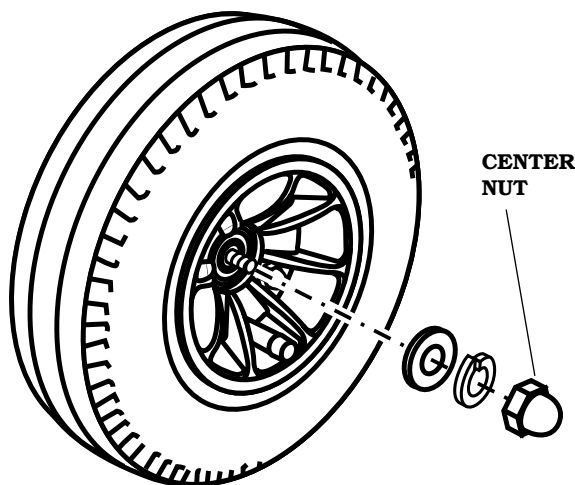

FIGURE 46. WHEEL REMOVAL
2. Remove the center nut. See figure 46.